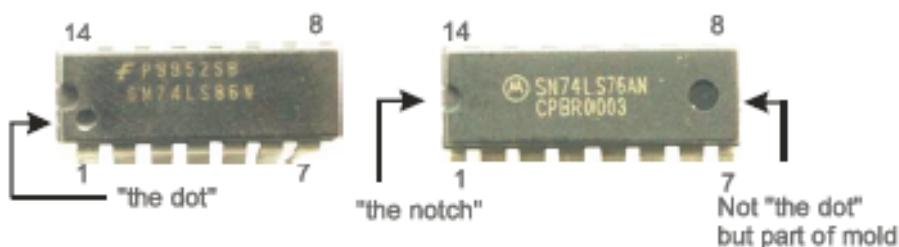

Figure 7: IC numbering (Pin 1 is designated by a dot or a notch and numbering follows counter clock wise direction, there are exceptions to this rule)
- It is important to identify the 1st pin on the ICs. Figure 7 shows the orientation of typical ICs, take note about how to find the pin no. You should refer to the datasheet of the ICs. Figure 2 shows a portion of the datasheet with its internal gate level schematic.